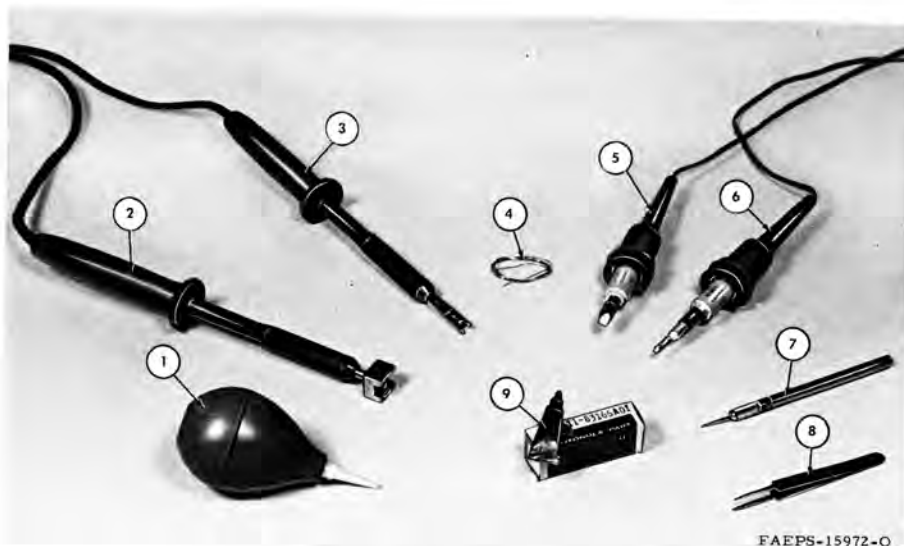

Figure 2.
Because of the unique power amplifier construction, it is recommended that the tools listed in Table 7 and shown in Figure 2 be used during the repair procedures in this section. Except for the silver solder (item 4) and the Wakefield thermal compound (item 9), which are supplied with replacement transistors, use of these tools is not mandatory. However, use of these tools will make quality power amplifier repairs easier to perform.